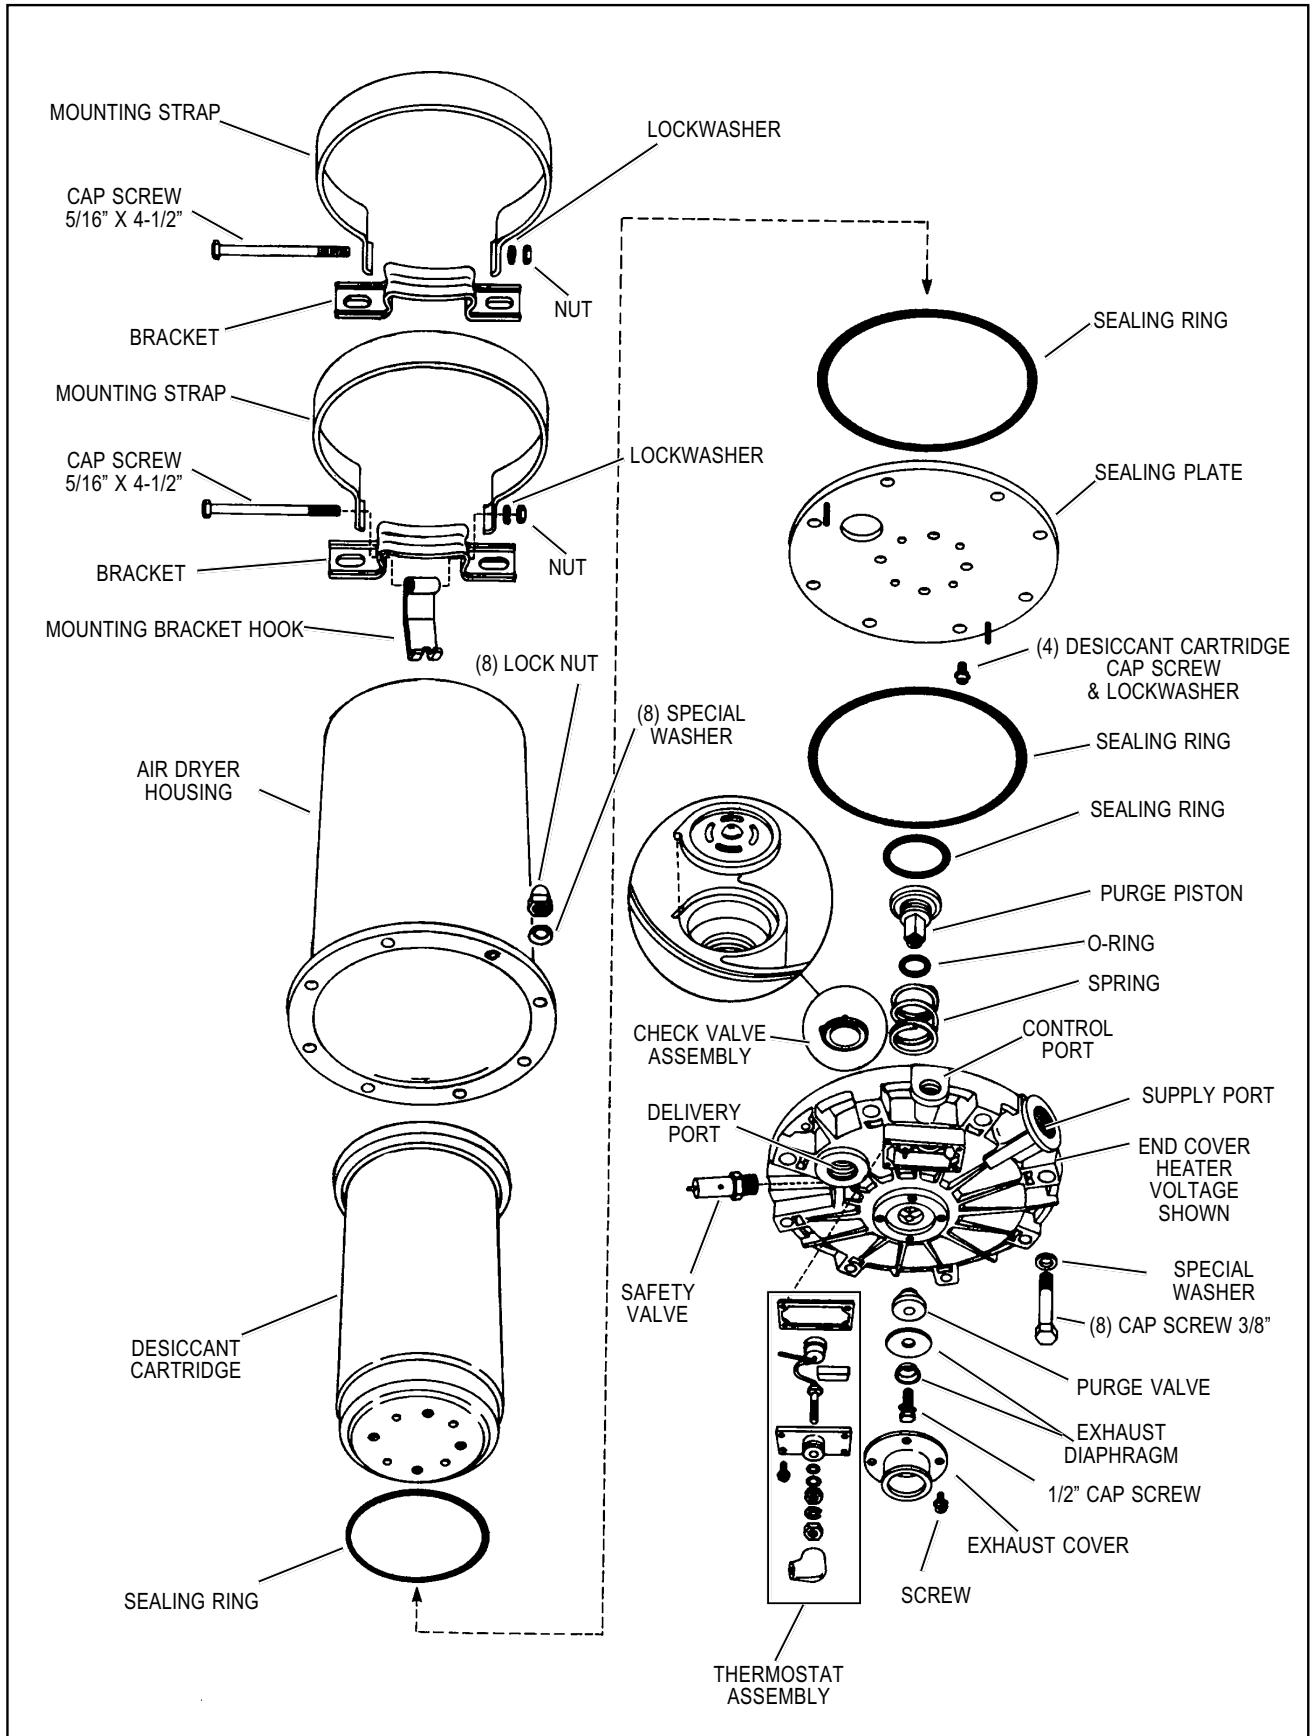

FIGURE 6 - AIR DRYER ASSEMBLY
5. Loosen the 5/16" X 4-1/2" hex bolt securing the upper and lower mounting straps. Disengage the mounting bracket hook from the end cover (Refer to Figure 6.) **Note:** If the air dryer being serviced has a right angle bracket instead of a lower mounting strap and safety hook, proceed to step 6, otherwise proceed to step 7.
The following disassembly and assembly procedure is presented for reference purposes and presupposes that a major rebuild of the air dryer is being undertaken. Several replacement parts and maintenance kits are available which do not require full disassembly. The instructions provided with these parts and kits should be followed in lieu of the instructions presented here. Refer to Figure 6 during disassembly.
**Important Note:** The single exception to prelubrication is the sealing ring between the desiccant cartridge and sealing plate. Refer to step number 8 for proper installation of this sealing ring. Refer to Figure 6 during assembly unless otherwise advised.